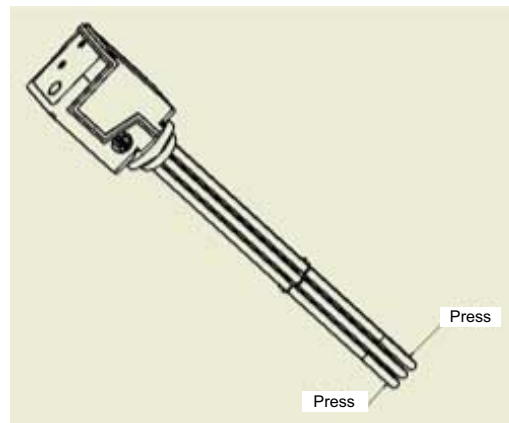

Fig. 1.2: Installation of the screw-in heater
- 1) Install the CEHK screw-in heater. When threading the heater through the sleeve, press the heating pipes together slightly with your hand (see Fig. 1.2).